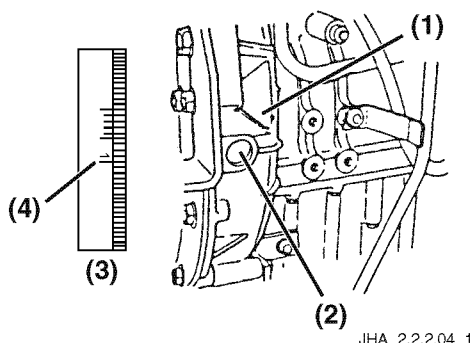

Figure 4-10
2. Set the No. 1 cylinder to TDC (**Figure 4-10, (4)**) during its compression stroke.
3. The timing mark on the flywheel housing (**Figure 4-10, (1)**) and the top mark of the flywheel (**Figure 4-10, (3)**) will align. (Position where both the intake and exhaust valves are closed.)